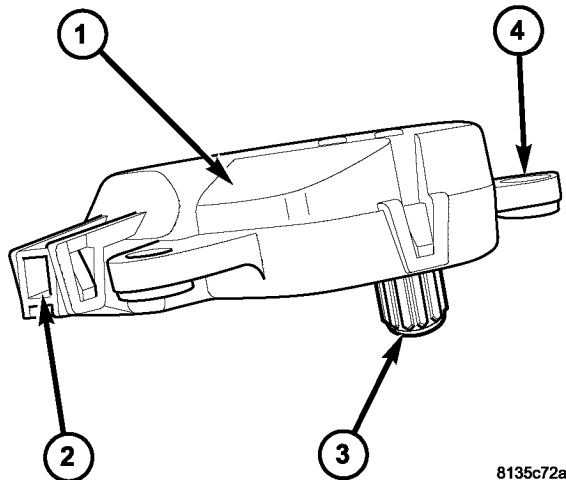

Fig. 13 Blend Door Actuator
The two blend door actuators for the dual zone heating-A/C system are reversible, 12-volt Direct Current (DC), servo motors (Fig. 13).